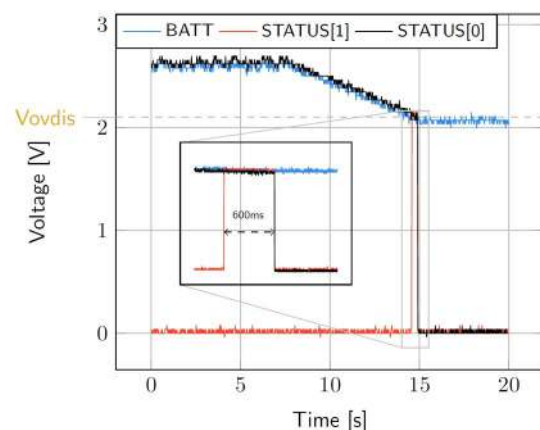

Figure 4: LDOs disabled around 600 ms after BATT reaches Vovdis
- BATT:** Voltage decreases as the system consumes the power accumulated in the storage element. The voltage remains stable after crossing VOVDIS (see Figure 4).
- STATUS[0]:** De-asserted when the LDOs are no longer available as the storage element is running out of energy. This happens 600 ms after STATUS[1] assertion (see Figure 4).
- STATUS[1]:** Asserted for 600ms when the storage element voltage (BATT) falls below VOVDIS (see Figure 4).